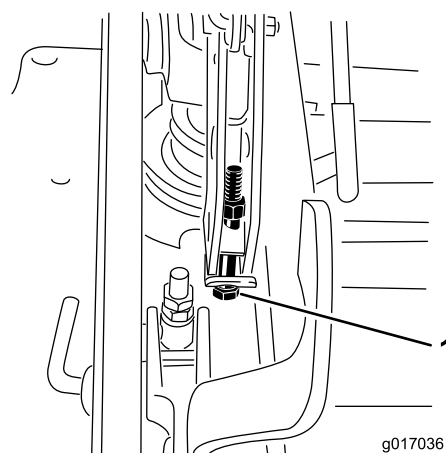

**Figure 75**
12. To adjust the single point system, loosen the 2 bolts at the bottom of the height-of-cut plate (Figure 75).
14. Tighten the 2 bolts at the bottom of the height-of-cut plate (Figure 75). T